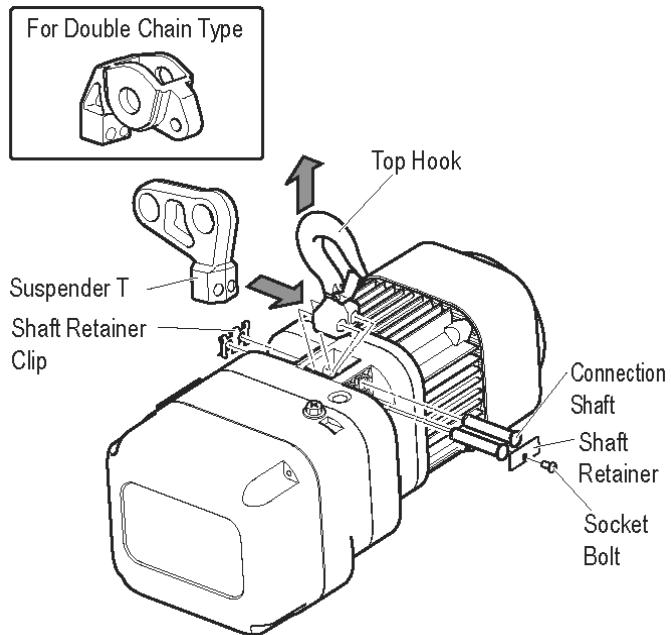

Figure 3-1 Installing Suspender T or Connection Yoke on ER2/NER2 Hoists – Up Through 3 Ton (030C) Capacity
- 1) Refer to Figure 3-1.
- 6) Re-insert the two (2) Connection Shafts into the holes in the hoist body.